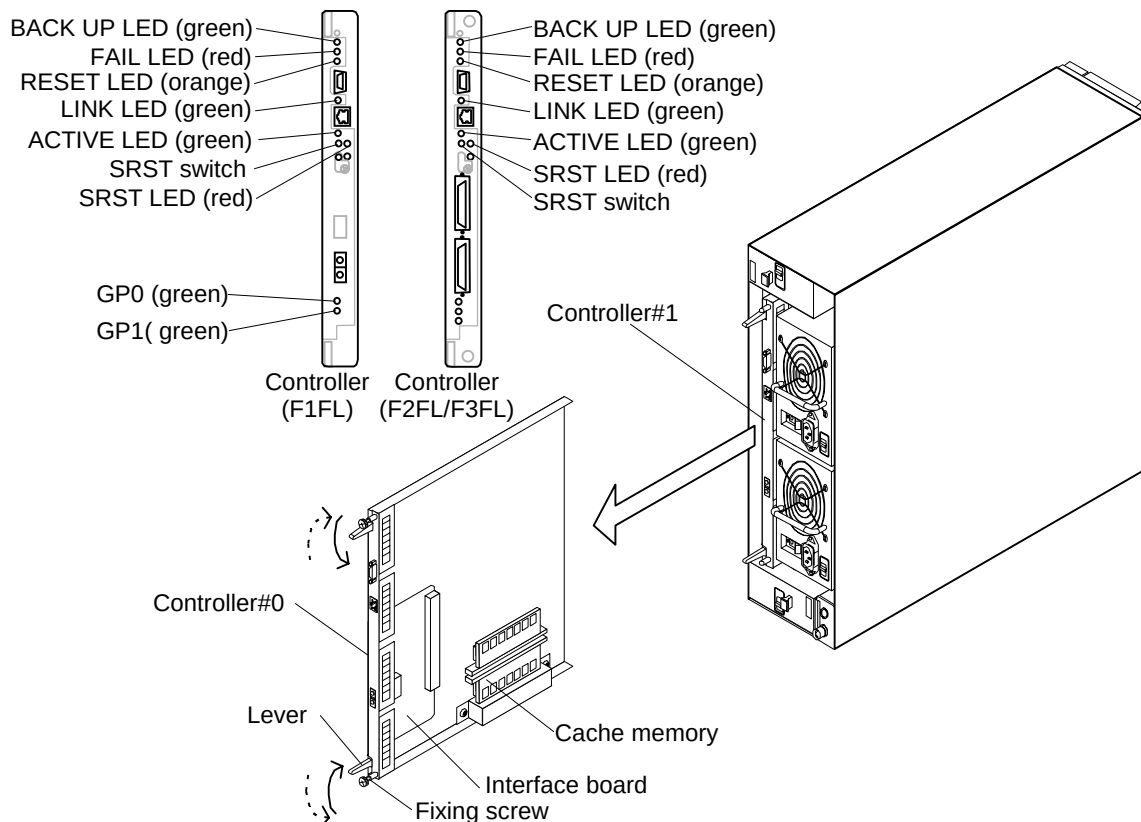

Figure 4.4.6 Controller Replacement and LED Locations
*1 : For the installation location of the FAIL LED, see Figure 4.4.6..
(1) Procedure for replacement with the power turned on (for the case of the dual Controller configuration only)
(a) Make sure that the FAIL LED (red) on the Controller to be replaced is on. (Refer to Figure 4.4.6.)
- (b) To block the controller by way of prevention against a failure, press the SRST switch and make sure that the FAIL LED (red) comes on (see Figure 4.4.6).
- (2) Procedure for replacement with the power turned off (See Figure 4.4.6.)